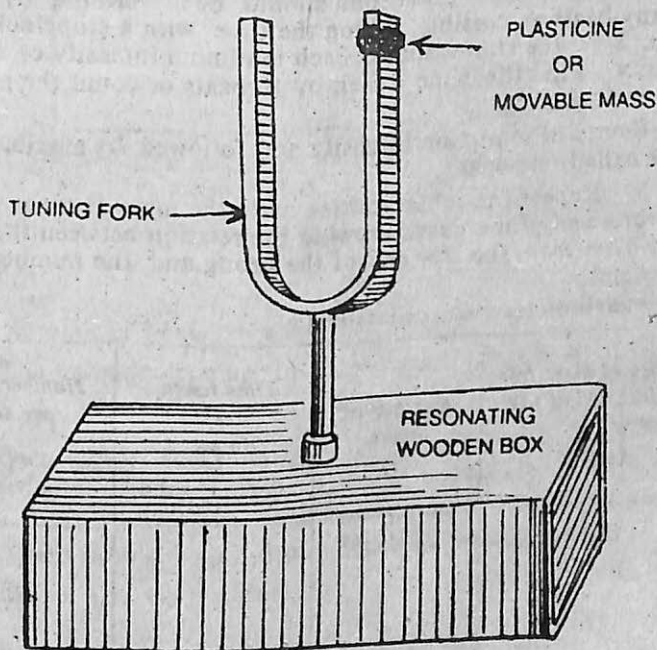

Fig. 40.2
1. Take two tall tuning forks of the same frequency mounted on resonant wooden boxes. Make their frequencies slightly different by loading one by plasticine or wax or by tightly attaching a small load by adhesive tape so that it can be clamped at any part of the prong (Fig. 40.2).